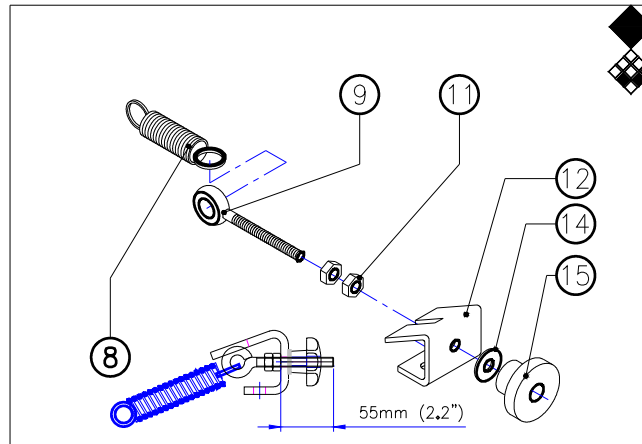

fig.2
1.1.2 Spring adjustment system. (see fig.2)